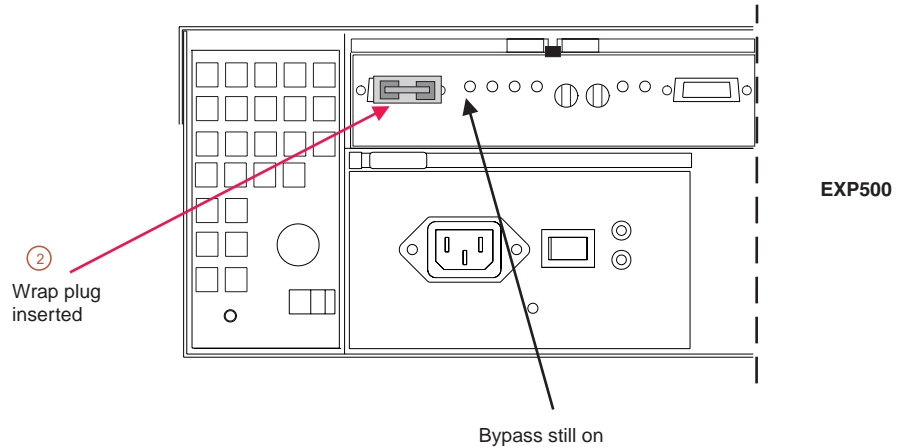

Figure 38. Insert wrap plug
2. Insert a wrap plug in the element from which you disconnected the cable. See Figure 38.